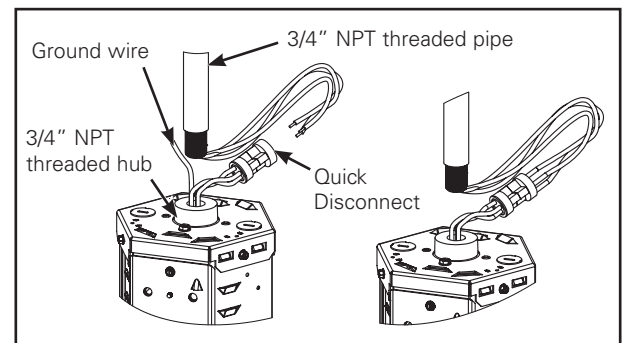

Figure 1.
1. Insert incoming power to Quick disconnect, wire according to code (Figure 1).